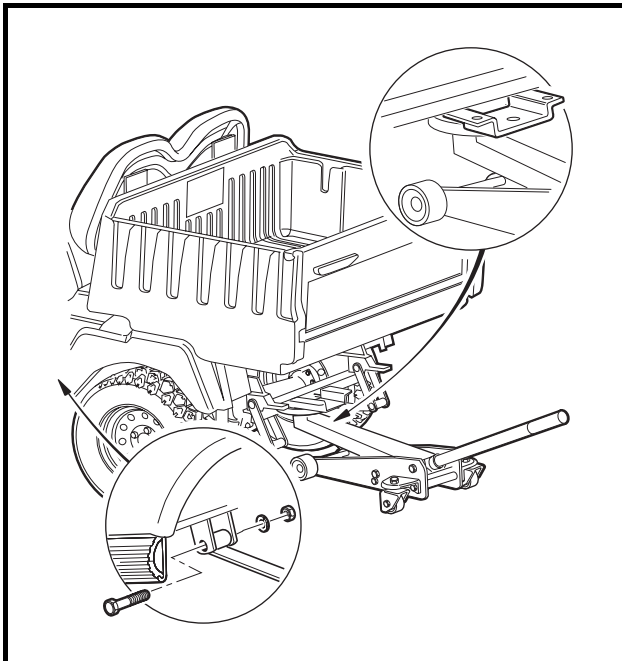

Figure 16-40 Leaf Springs
13. Position the floor jack under the rear frame crossmember and raise the jack high enough to support the vehicle (Figure 16-40, Page 16-15). Make sure the vehicle is stable on the jack, then remove the jack stands.